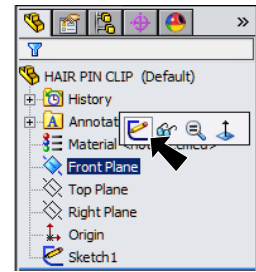

Fig. 8
Step 2. Click **Front Plane**  in the Feature Manager and click **Sketch**  on the Context toolbar, **Fig. 8**.